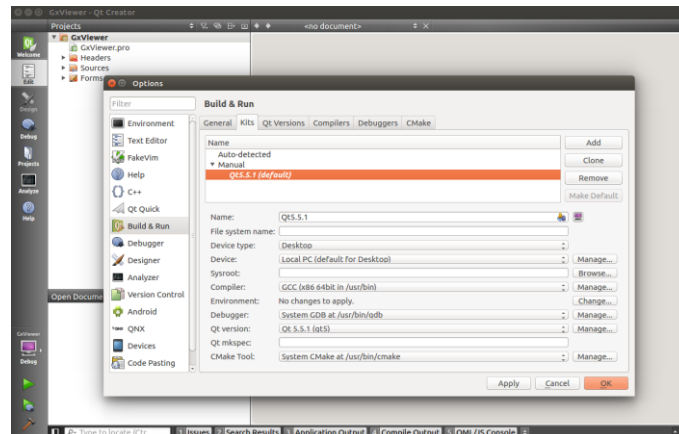

Figure 2-9
Step 3: After qmake loads successfully, add qmake to the Qt Version of the build options you want to use in the **Tool -> Options -> Build & Run -> Kits** tab, as shown in Figure 2-9. This step can be ignored if the project can be opened normally.